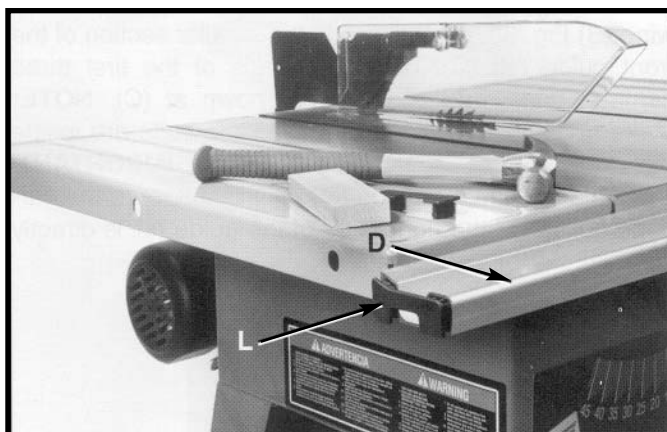

Fig. 46
8. Insert end cap (L) Fig. 46, into each end of the guide rail (D), as shown. Using a rubber mallet or a hammer and a block of wood, gently tap end caps until they are completely seated into each end of the guide rail. **NOTE: DO NOT** use a hammer directly against end caps or the guide rail. If it becomes necessary to remove the end caps, use a wide blade screwdriver.